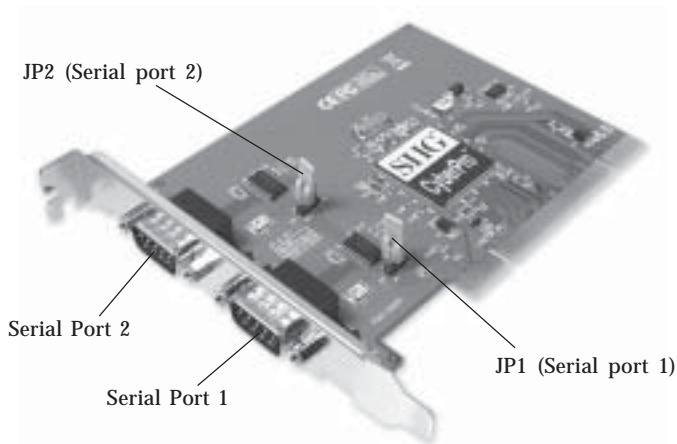

Figure 1. Layout
5. Set **JP1** and **JP2** jumper settings to the desired voltage only if your serial device needs additional power from the serial port. However, most serial devices do not require additional power. For more information see **Figure 1** on page **2**. Skip this step if power is not required.